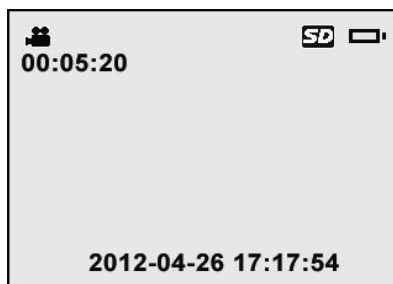

Fig. 26
***NOTE:** before capturing a video, figure at the top left under the video icon indicates how long a section of video you can save in the space left. (Fig.26)*